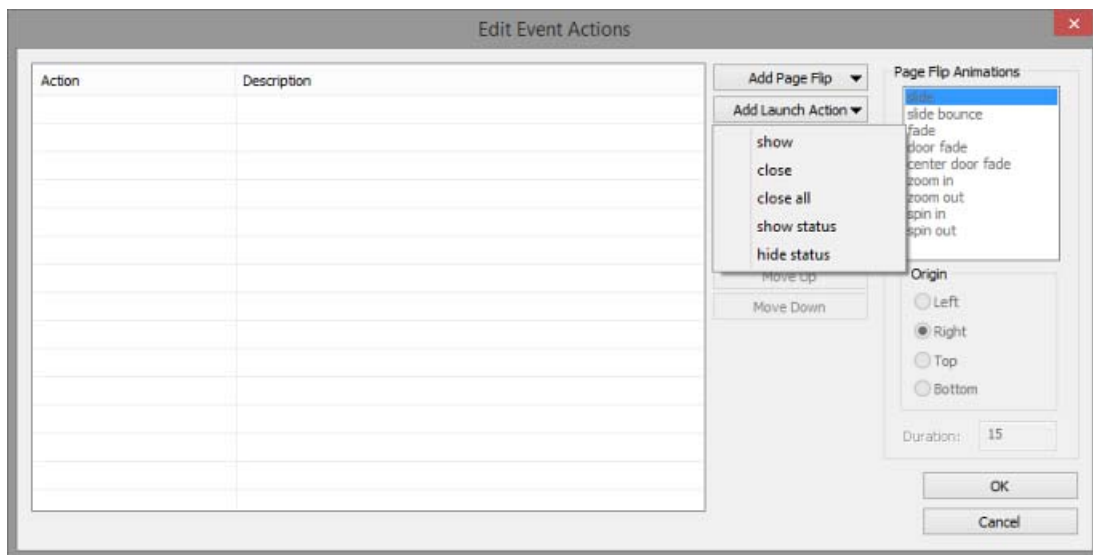

FIG. 337 Edit Event Actions dialog - Add Launch Action drop-down menu
3. Click the Browse (...) button to open the *Edit Event Actions* dialog (FIG. 337):